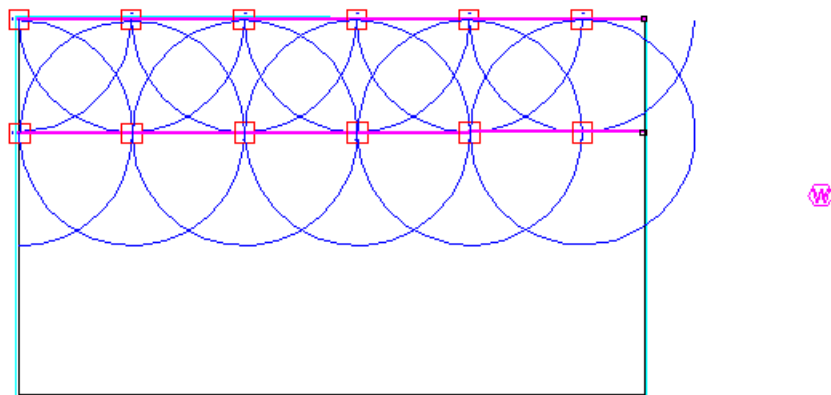

Figure 4-12
7. Starting from the left-hand side, draw another line so that the pipe will touch the extents of the wetted radii from the previous line of outlets as in Figure 4-12.